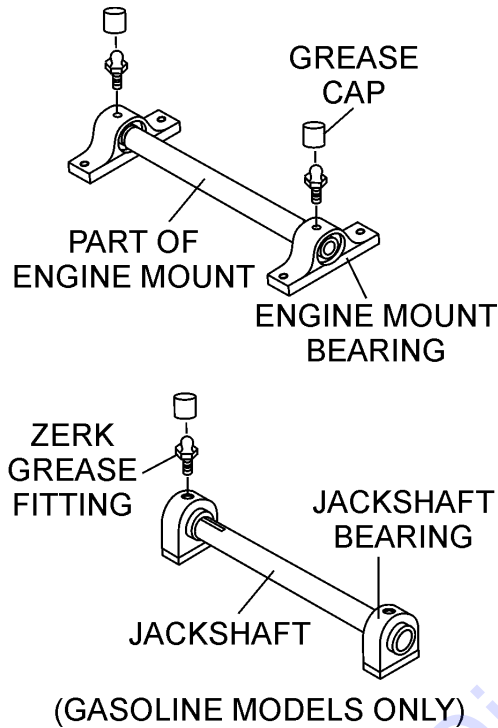

Figure 27. Zerk Fittings Lubrication
There are two (2) grease points (Figure 27) for the MP2 (Electric Motors) and four (4) grease points for the MP2 (Gasoline Engine). Use only Premium Lithium 12 based Grease, conforming to NLG1 Grade #1 consistency. Grease *daily*.